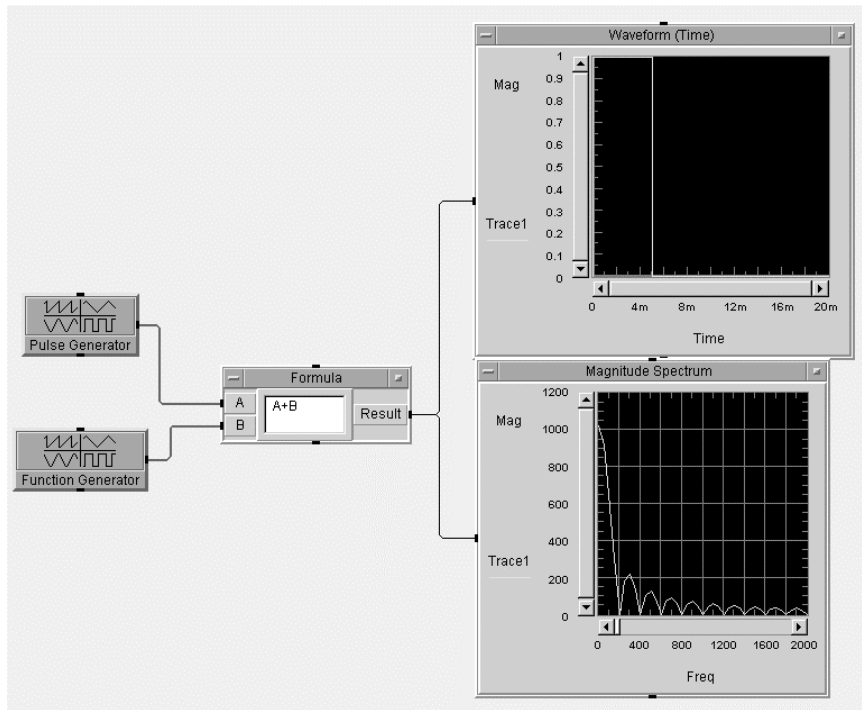

Figure 13.3. Effect of pulse width on the frequency spectrum
18. Run your modified program again; what differences do you observe? See Figure 13.3. Record the results and remarks in the table on page 13-6 for these *and the waveforms below*.